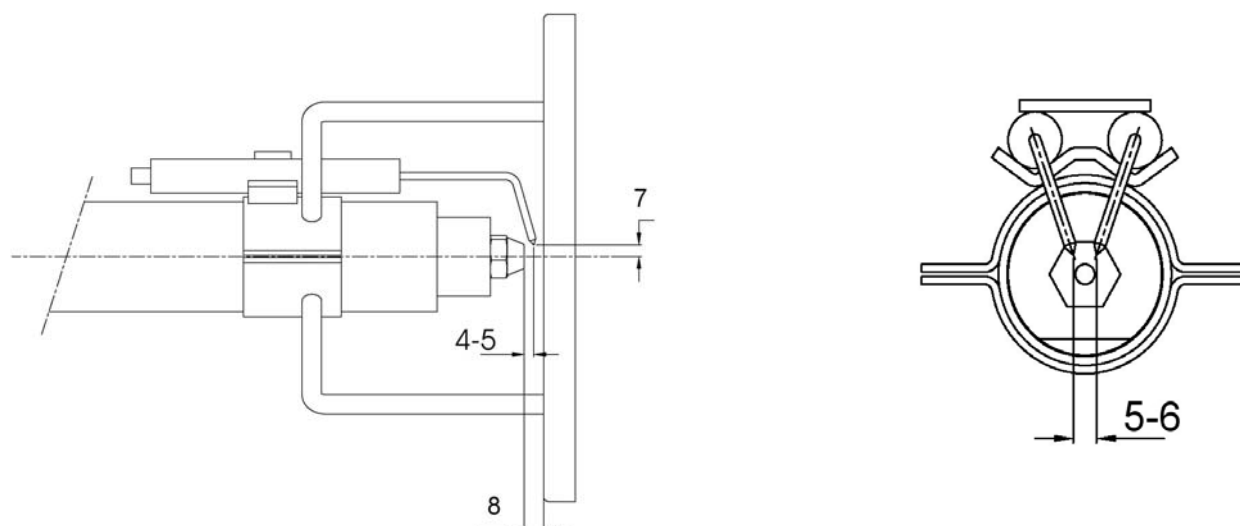

Fig. 21
To guarantee a good ignition the measures shown on the next picture Fig. 21 must be observed.
- 5 remove the electrodes and replace them, referring to the values quoted on Fig. 21.